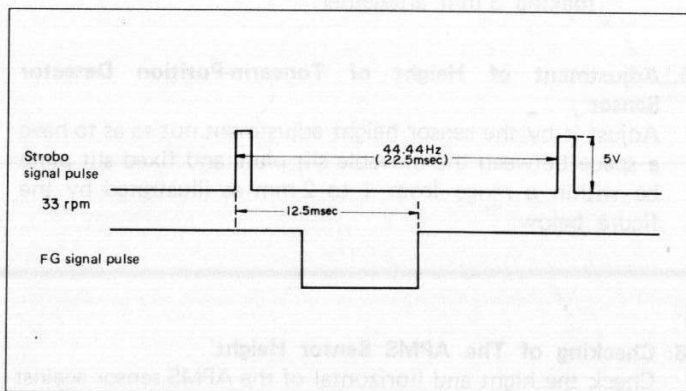

Figure 32-2
- (2) Put thereafter the speed selector switch in the "33-1/3 rpm", and adjust the semi-variable resistor VR4 so that the strobo signal pulse and frequency generator's (FG) signal pulse be as shown by Fig. 32-2.